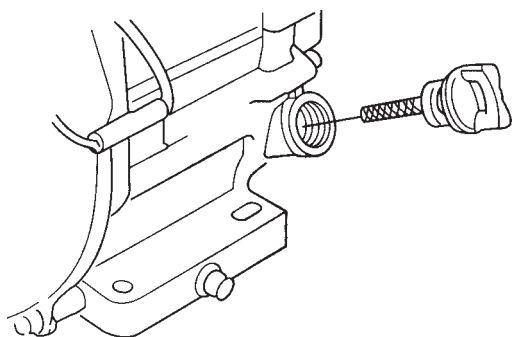

Figure 6. Engine Oil Dipstick (Removal)
2. Remove the filler dipstick from the engine oil filler hole (Figure 6) and wipe clean.